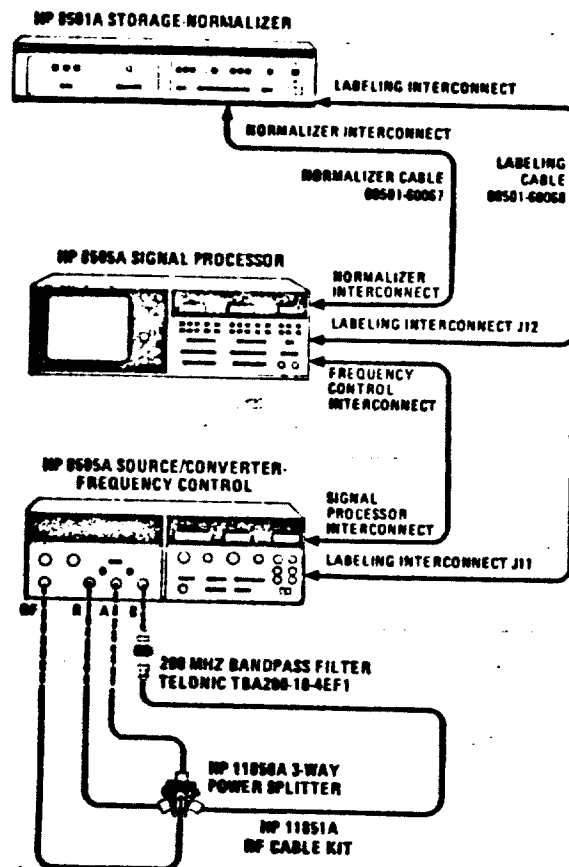

Figure 4-1. Test Setup for Manual Performance Test
1. Connect equipment as shown in Figure 4-1 except the HP-IB cables and Desk-Top Computer will not be in the test setup.